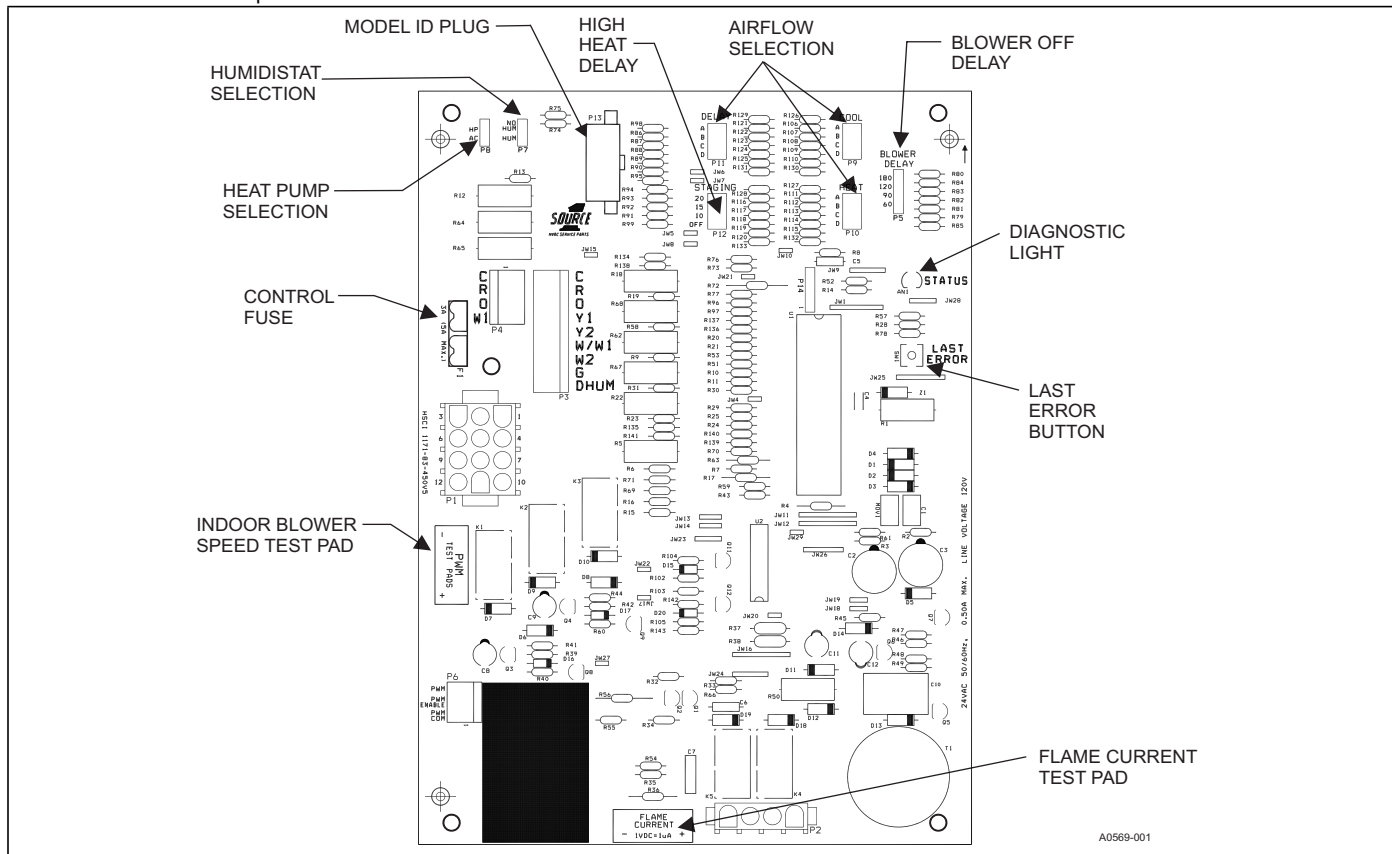

FIGURE 9: Control Board
3. Set the airflow selection jumpers to the appropriate settings based on external static pressures and heating temperature rise. See Figure 9.